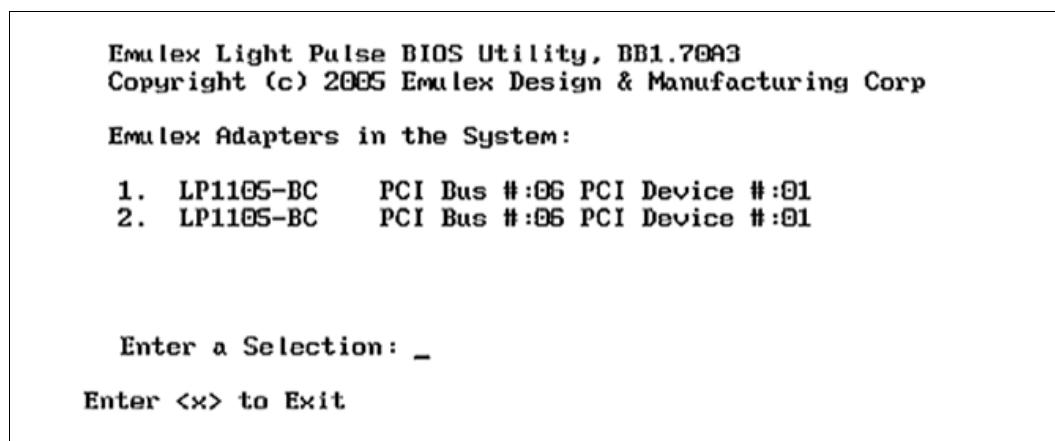

Figure 18-8 Emulex BIOS Utility
- ▶ Emulex LP6DUTIL.EXE: The default configuration for the Emulex expansion card for x86 BootBIOS in the Universal Boot Code image is not enabled at startup. This configuration disallows access to the BIOS Utility on power up. Otherwise, press Alt+E. In Figure 18-8 the x86 BootBIOS is enabled at startup, so we press Alt+E to access the BIOS Utility.
2. Select the appropriate adapter and press Enter as shown in Figure 18-8.